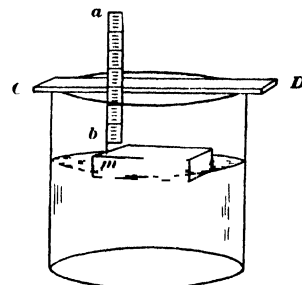

FIG. 19
**III From the depth to which a block sinks in water.** Wax a pin to the end of a metric rule *ab*, arranged as in Fig 19, and take the reading of the point on this rule at which it meets the straightedge *CD* when the pin point just touches the corner *m* of the floating block. Then take the reading on *ab* when the pin point just touches the surface of the water, say, 1 cm away from the edge of the block. The difference between these two readings subtracted from the height of the block would give the distance which the block sinks in the liquid if the surface of the block were accurately horizontal. In order to obtain as accurate a value as possible for this distance, repeat the measurements at each corner of the block, and take a mean of these four differences. From this mean difference find the distance *h'* which the block sinks in water. Then, from *h'* and the height *h* of the block compute its density *d* from the relation